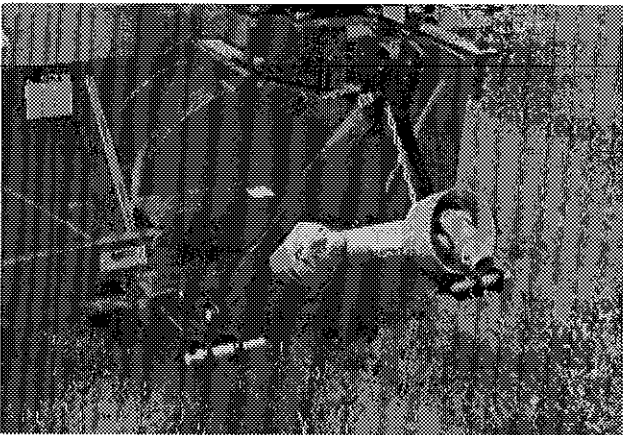
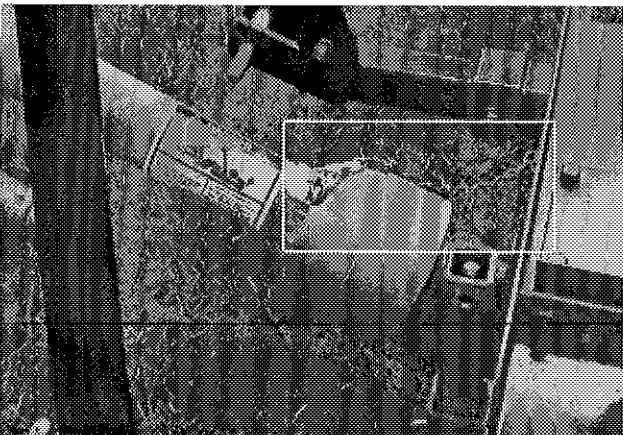

Figure 17
Figure 18
- 3) Install P.T.O. shaft with the shear pin end onto the Snowblower gear box (Fig. 17). Then attach safety shield support chain as shown (Fig. 18). **WARNING:** The telescoping tubes of the drive shaft must never be allowed to bottom out while maintaining a minimum overlap of 6 inches.